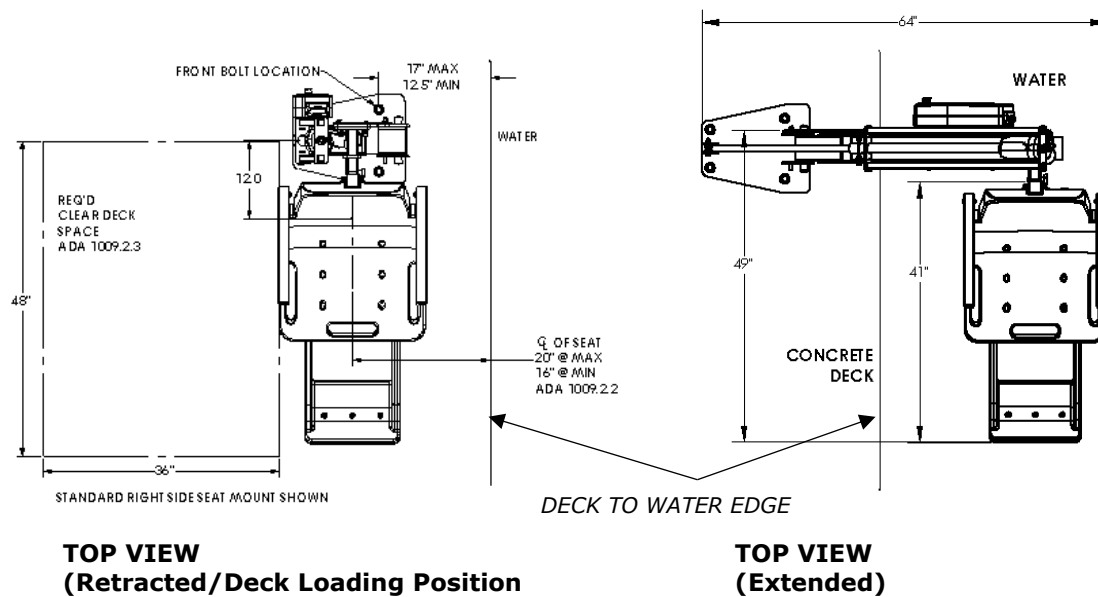

Figure 9. Transferring
14. The multiLift™ comes standard with the seat mounted on the right side of the lift as shown in **Figure 9**. The seat can be moved to the left side of the lift by following the instructions found in **Appendix D**.
- Use the buttons on the hand control or control unit front panel to raise the seat to the deck loading/unloading position as shown in **Figure 9**.